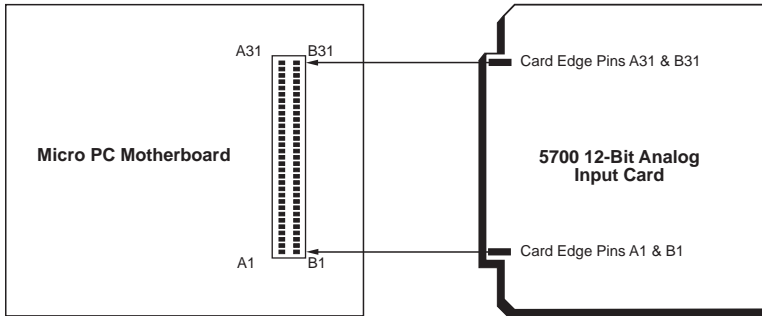

Figure 2–3—Card Edge Orientation
WARNING: Take care to correctly position the 5700 in the card cage. The V_{cc} and ground signals must match those on the backplane. Figure 2–3 shows the relative positions of the 5700 as it is installed in the card cage.
6. Slide the 5700 into the card cage (you can use any slot in the card cage). The components on the card should face to the left. The lettering on the card (Octagon Systems Corp.) should be on the top edge of the card and the gold contact fingers toward the backplane (see Figure 2–3).